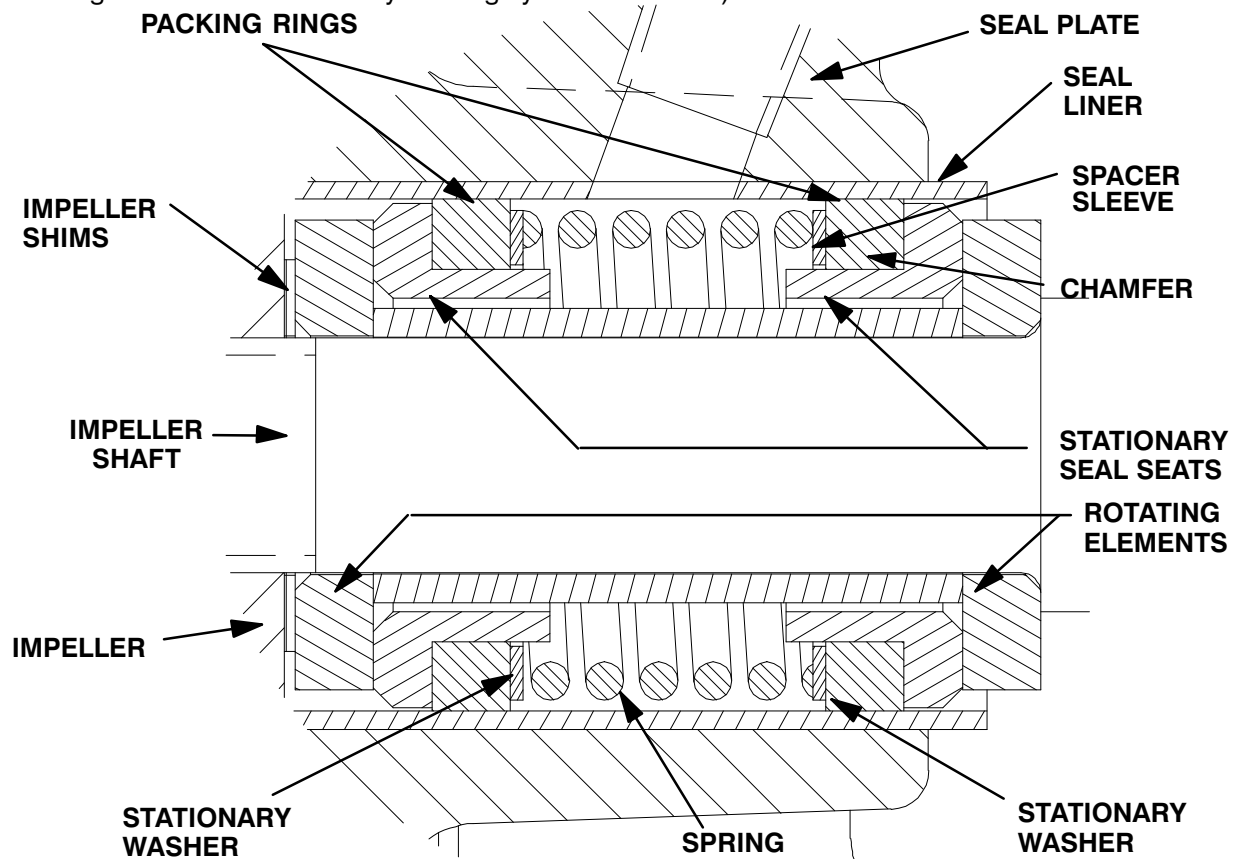

Figure 3. GS750 Seal Assembly
To ease installation of the seal, lubricate the spacer sleeve (49) with water or a very **small** amount of oil, and apply a drop of light lubricating oil on the finished faces. Assemble the seal as follows, (see Figure 3).